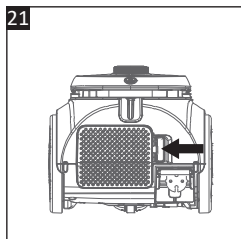

Fig. 21
2. On the back of the vacuum cleaner, push the tab of the air outlet cover (24) towards the left to unlock and remove it (**Fig. 21**).